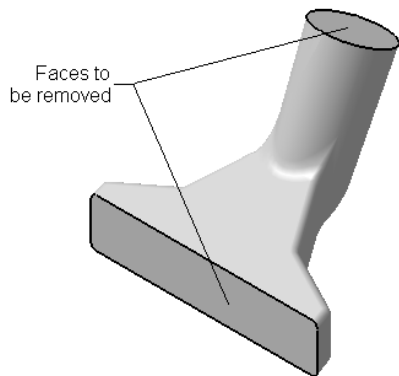

Figure 6-88 Faces to be removed
- Shell the model using the **Shell** tool, refer to Figures 6-88 and 6-89.
2. Select the faces to be removed, as shown in Figure 6-88.